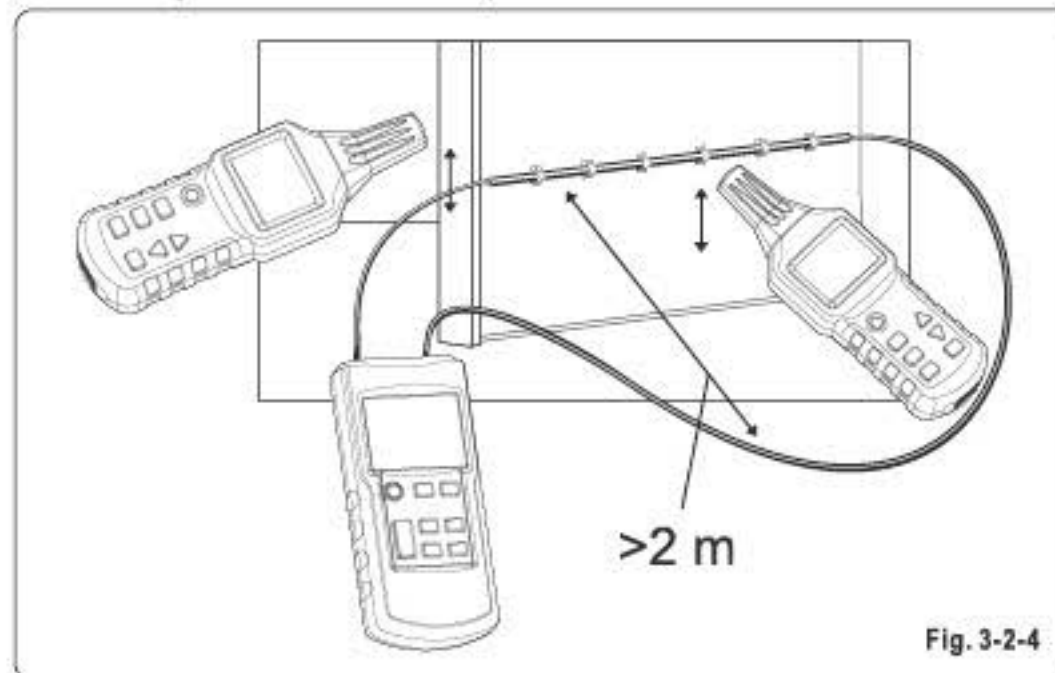

Fig. 3-2-4
- Connect the transmitter in a way shown in Fig.3-2-4;